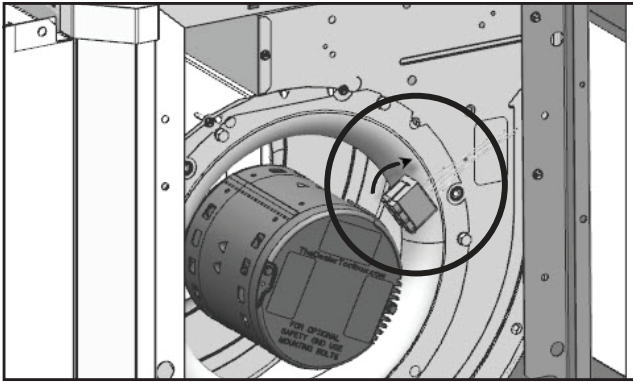

Fig. 28 - Blower Motor Wring & Ground Wire Location
2. Disconnect blower motor wiring and ground wire fastened to blower housing. See Fig. 28.